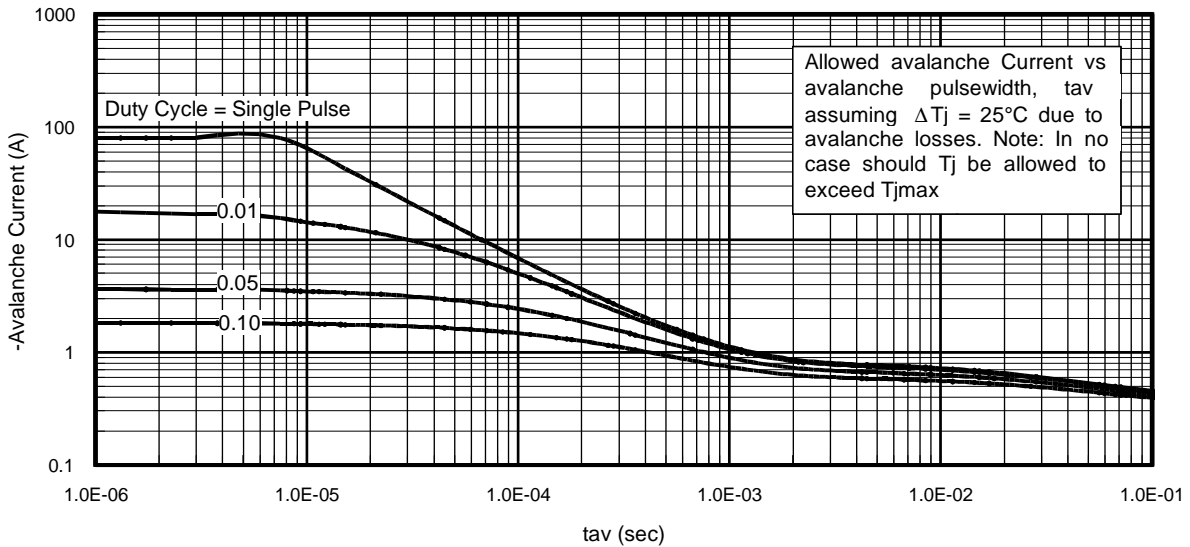

Fig 14. Typical Avalanche Current Vs. Pulsewidth
Notes on Repetitive Avalanche Curves , Figures 14, 15:
7. ΔT = Allowable rise in junction temperature, not to exceed T_{jmax} (assumed as 25°C in Figure 14, 15).
- ③ Pulse width $\leq 400\mu\text{s}$; duty cycle $\leq 2\%$.
- ④ R_θ is measured at T_J of approximately 90°C .
- ⑤ Limited by $T_{j\text{max}}$. See Figs. 14, 15, 17a, 17b for repetitive avalanche information